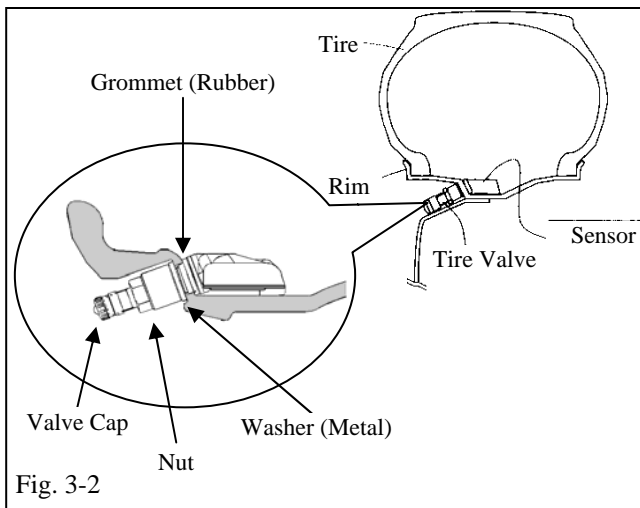

Fig. 3-2
- (f) Insert the tire pressure monitor valve sub-assembly into the valve installation hole from the inside of the rim and bring the valve stem to the outside. (Fig. 3-2).